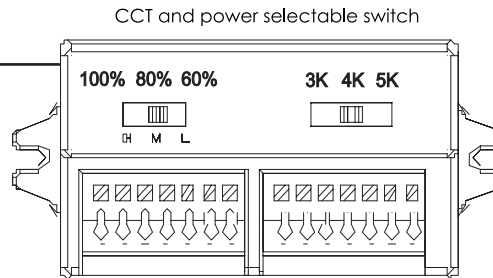

Fig 9
**5.** Choose your desired wattage and color temperature by the DIP switches (Fig 9).